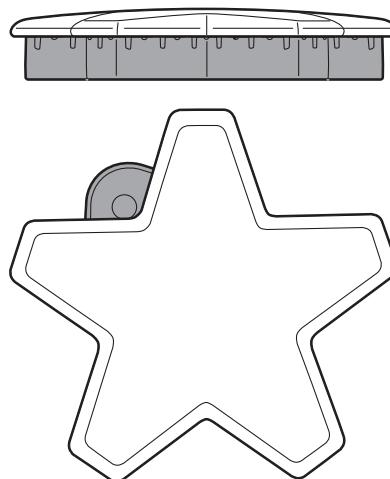
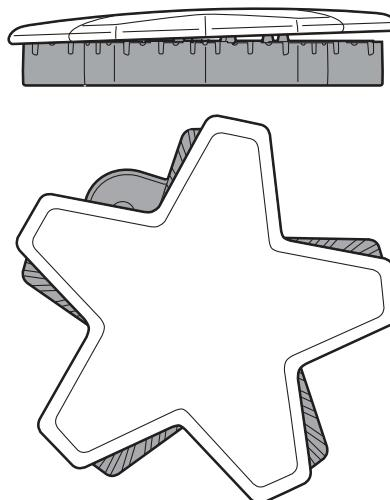

Figure 14: Correct Burner Cap Placement
Figure 15: Incorrect Burner Cap Placement
- Check each burner to make sure there is no gap between the burner cap and burner base. See *Figure 14 and Figure 15: Correct and Incorrect Burner Cap Placement* to see examples of correct and incorrect placements of the burner cap.
- You may gently try to move the burner caps from side to side to check if the caps are properly placed on the burner bases. When properly placed, each burner cap will rest flat on top of its burner base, and completely cover the star-shape of the burner base when viewed from the top as shown in *Figure 14: “Correct Burner Cap Placement”*.